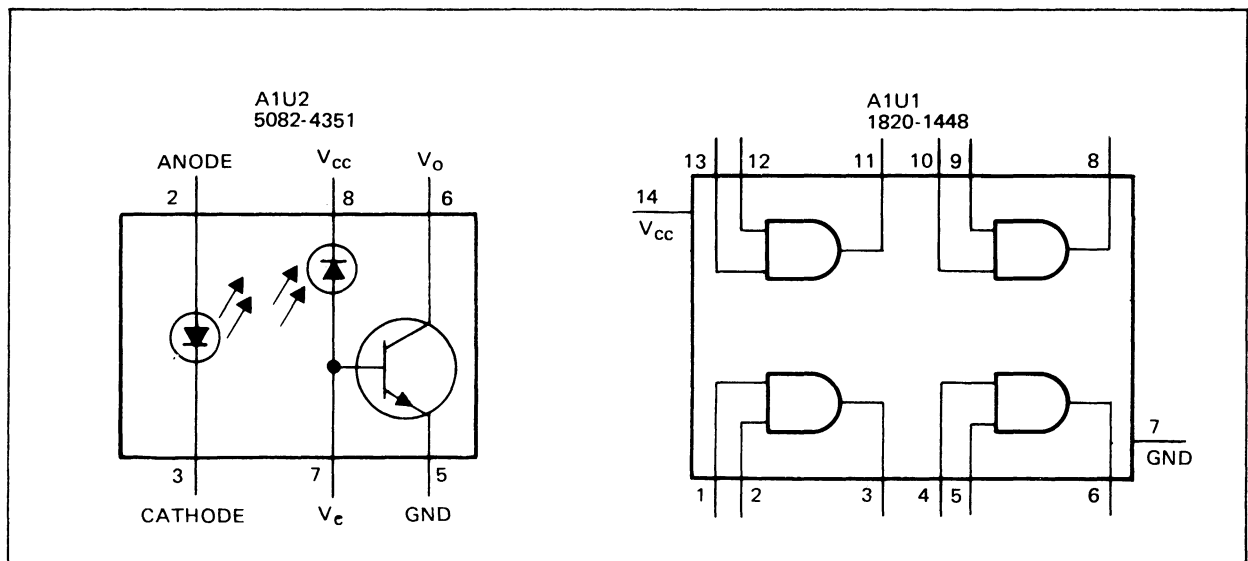

Figure 3-17. A1U1 and A1U2 Configurations
When A5U1-14 is high, A5Q5 turns on pulling A1U2-3 to ground (GND). A1U2-2 returns via A1R9 to +5V (L) on the mother board. This turns on U2, an OPTO-isolator, causing A1U2-6 to the pulled low to REF GND (A1U2-5). Note the change in references. REF GND is the reference for the preregulator drive and GND is the reference for the control board. The action of the OPTO-isolator allows this shift in references. The configuration for U1 and U2 are shown in Figure 3-17.